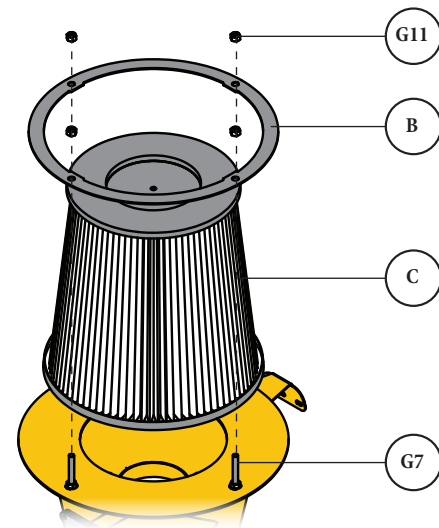

FIG. 17
Slide the Filter Hold-Down Ring (B) over the Filter (C) and the previously installed bolts (G7) and secure in place using four Nylock Nuts (G11) [FIG. 17].